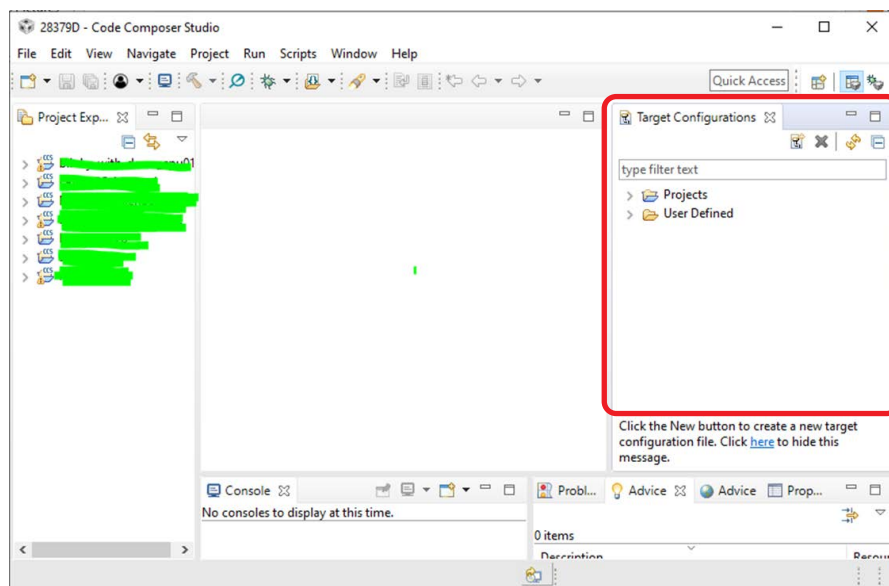

Figure 5: Target Configuration Window
2. Figure 5 shows the location of the **Target Configuration window**.